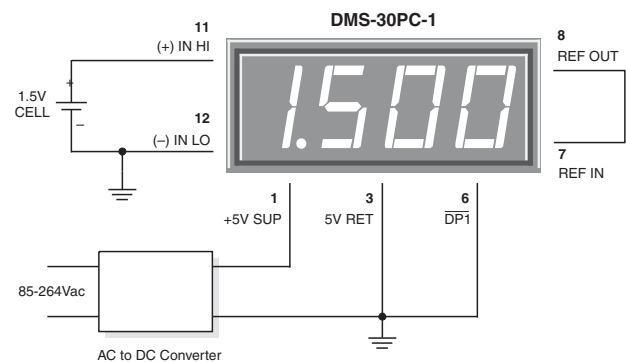

**Figure 4.** Input Attenuation Circuit
- 3. Engineering Scaling:** For measuring voltages greater than the full scale input range of a given meter, the input signal must be attenuated. A simple voltage divider (similar to that shown in Figure 4) will scale the input to within the range of the selected meter. R1 and R2 should be precision,  $\pm 1\%$ , metal-film resistors with absolute TCR's less than 50ppm/°C. See Ap Note 4 for more information on engineering scaling.